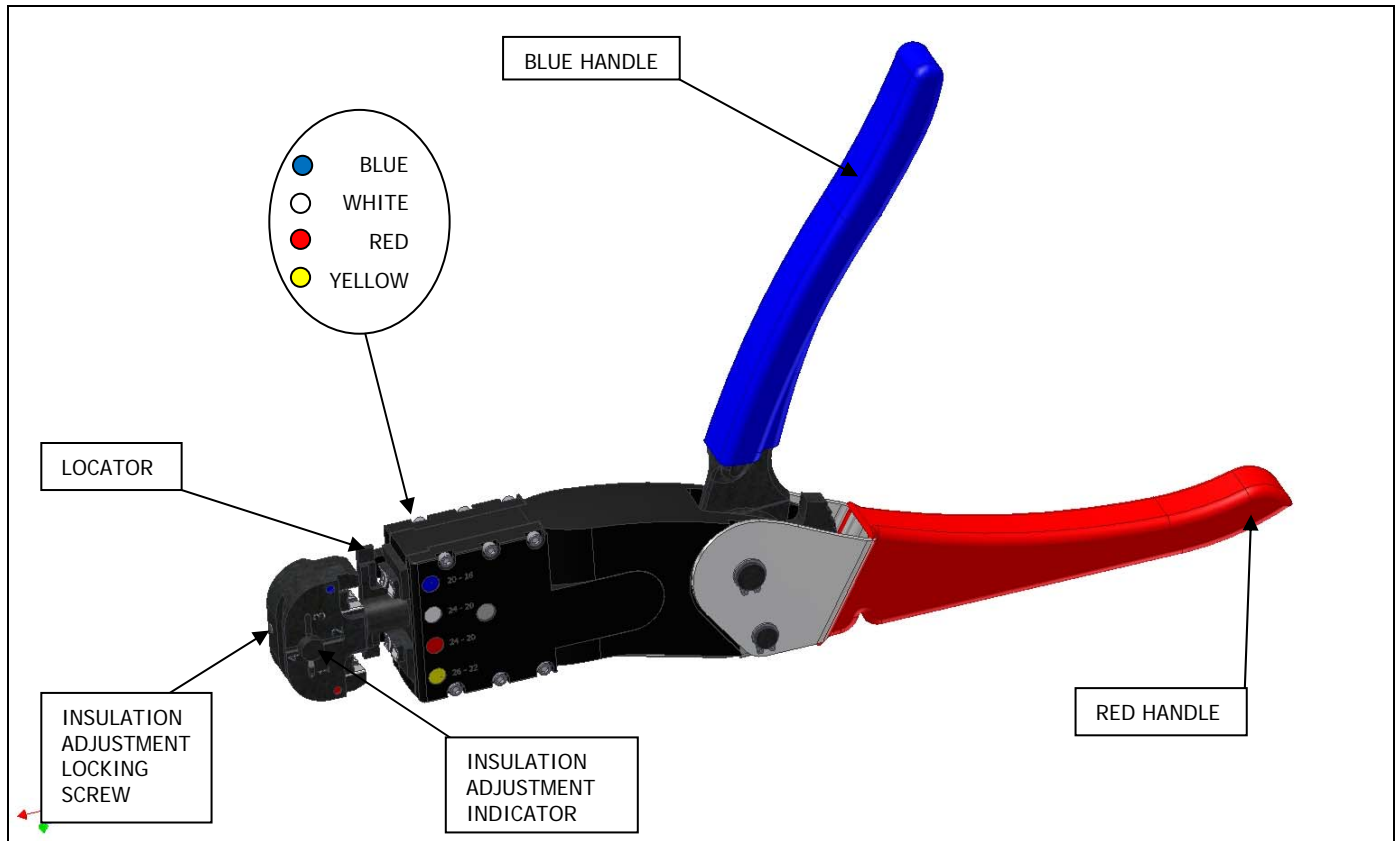

Figure 1
This datasheet explains the use of Astro's "Crimp Tool for Terminals" AMT4001 (M22520/40-01) (See Figure 1). This tool is intended to crimp
(See Figure 1) To set the Insulation Crimp Height:
1. Loosen the insulation adjustment locking screw, and turn the indicator to position 4. (See Figure 1)